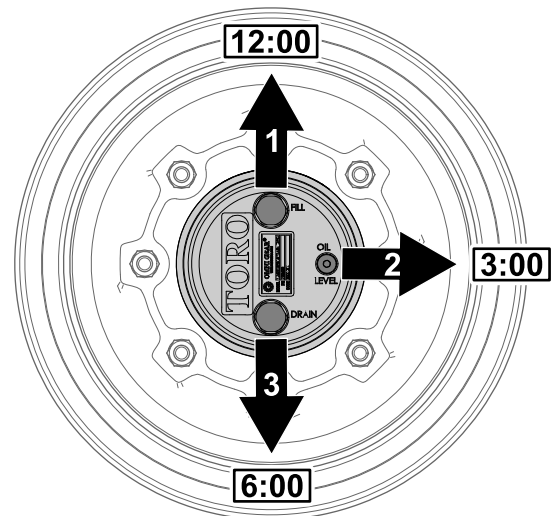

Figure 58
1. Park the machine on level surface, position the wheel so that the fill plug is at the 12 o'clock position, the check plug is at 3 o'clock position, and the drain plug is at the 6 o'clock position (Figure 58).
2. Remove the check plug at the 3 o'clock position (Figure 58).
1. Park the machine on level surface, position the wheel so that the fill plug is at the 12 o'clock position, the check plug is at 3 o'clock position, and the drain plug is at the 6 o'clock position; refer to Figure 58 in Checking the Planetary Gear-Drive Lubricant (page 52).